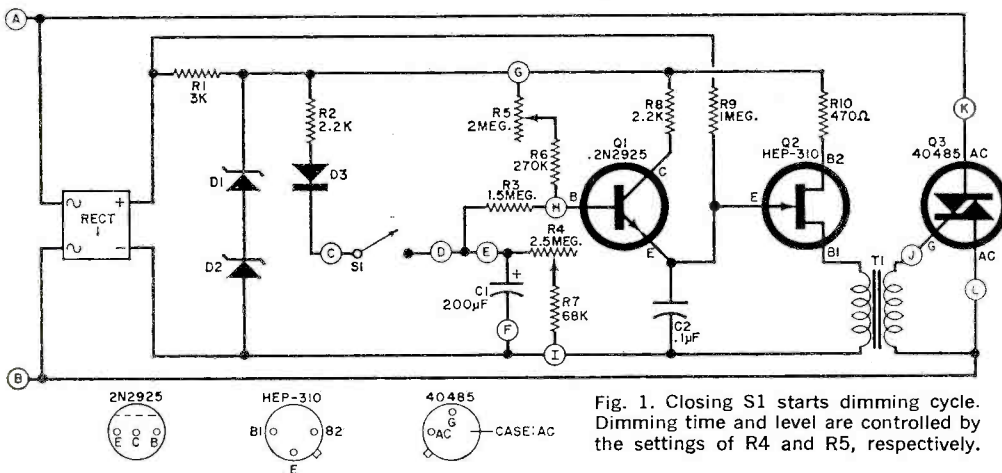

Fig. 1. Closing S1 starts dimming cycle. Dimming time and level are controlled by the settings of R4 and R5, respectively.
**How It Works.** To obtain proper dimming action, the Dynadim must be connected in series with the a.c. power source and the load (lamp or fixture to be controlled) via terminals *A* and *B* in Fig. 1.